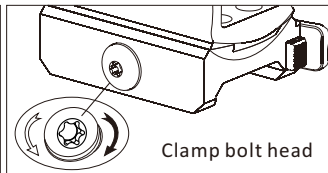

Fig 4-2
1) There is one Torx socket at the end of clamp adjusting bolt on the side of the mount. (See Fig 4-2) Before installation, loosen the bolt to release clamp using included Torx wrench.